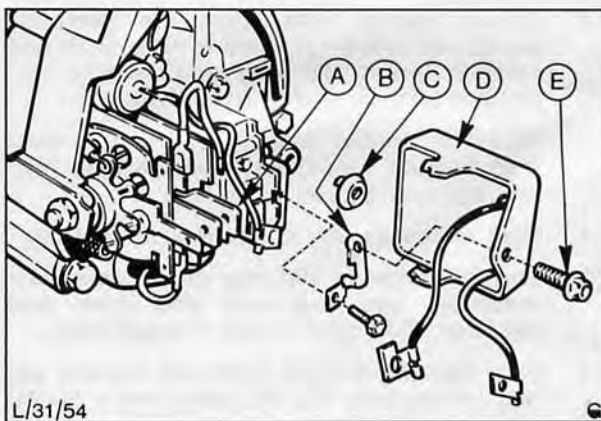

Fig. 57. Installing the regulator assembly
30. Refit regulator assembly, Fig 57.